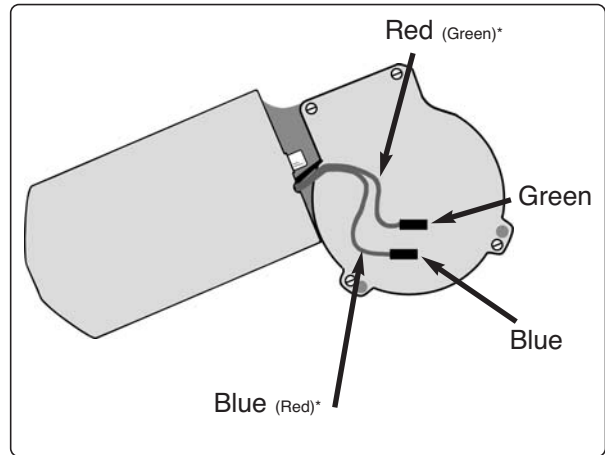

Fig.38. Note the connector colors.
2. Disconnect the seat lift cable at the motor; note the position of the connectors, see fig. 38.